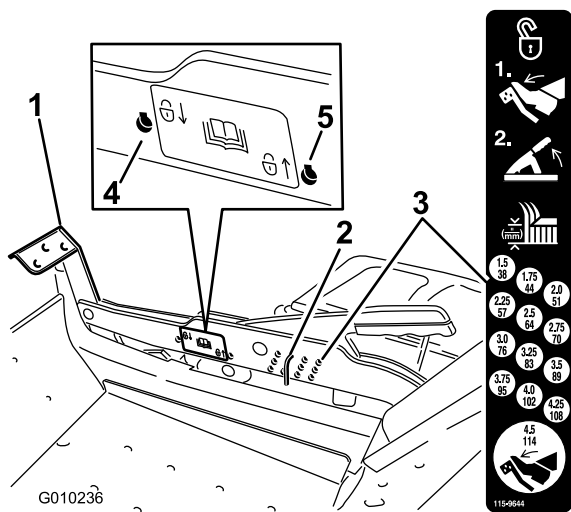

Figure 25
1. Push on the deck lift pedal with your foot and raise the mower deck to the transport position (also the 4-1/2 inch (114 mm) cutting height position) (Figure 25).
2. To adjust, remove the pin from the height-of-cut bracket (Figure 25).
3. Select a hole in the height-of-cut system corresponding to the height-of-cut desired and, insert the pin (Figure 25).
1. Push on the deck lift pedal with your foot and raise the mower deck to the transport position (also the 4.5 inch (114 mm) cutting height position) (Figure 25).
2. Remove the pin from the height-of-cut bracket (Figure 25).
3. Select a hole on the lock decal and insert the pin (Figure 25).